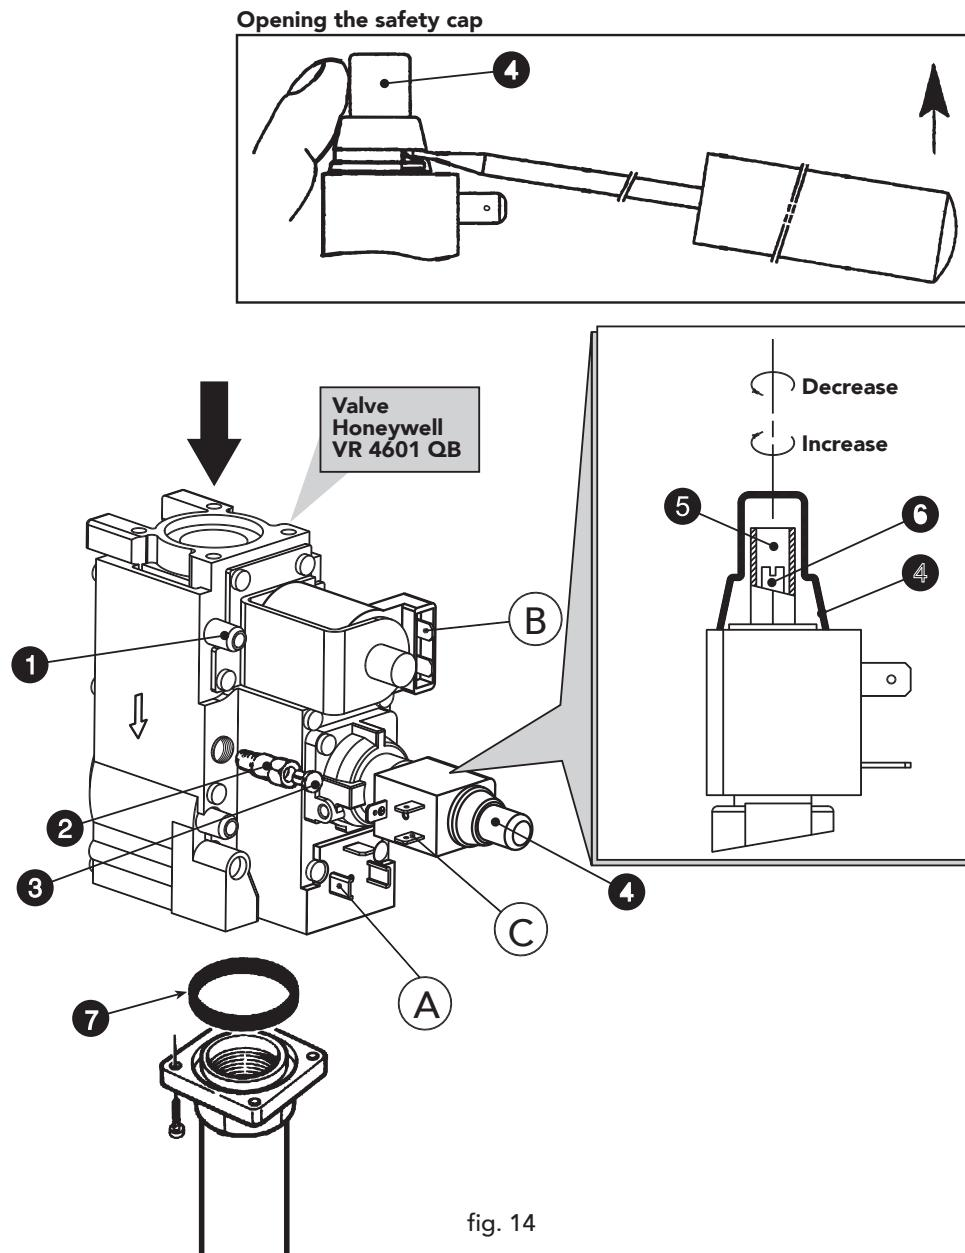

fig. 14
The operations for adjusting the pressure are performed with the boiler working, using the pressure control on the 2-stage gas valves (see Fig. 14).
- 3 Take off the cover protecting the pressure regulator 4 (Fig. 14).
- 1 Slowly turn the adjustment thermostat knob clockwise as far as the 1st click; the gas valve will thus be supplied solely on connections A and B (see Fig. 14).
- 2 Turn the screw 6 (Fig. 14), checking that the pressure corresponds to the values of the technical data chart in paragraph 4.3.
- 1 Turn the adjustment thermostat knob onto maximum; the gas valve will now be supplied on connections A, B and C (see Fig. 14).
- 2 Turn the screw 5 (Fig. 14), checking that the pressure corresponds to the values of the technical data chart in paragraph 4.3.
- 2 Remove the small plug 3 (Fig. 14) from the gas valve, screw the ignition "STEP" regulator 2, contained in the conversion kit, onto the valve and put the plug 3 back onto the regulator.
Carry out the same operations explained above, taking care to remove the ignition "STEP" regulator 2 (Fig. 14) of the gas valve; the plug 3 (Fig. 14) must be fitted straight onto the valve.
- Unscrew the screws securing the connectors to the gas valves (see Fig. 14) and extract them from these valves.